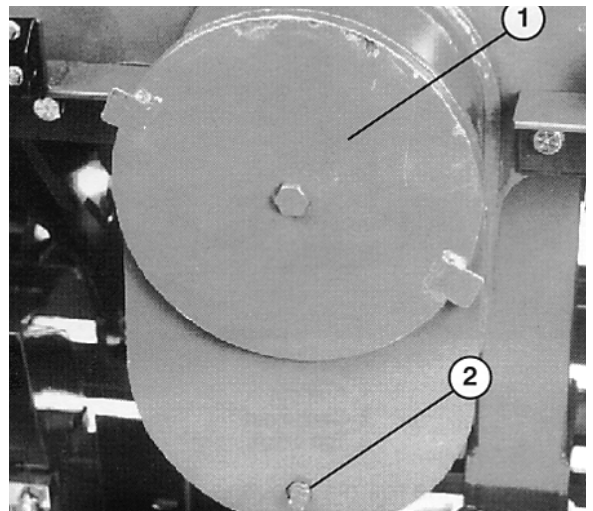

Figure 15
1. With the machine on a level surface, remove the gear case cover (Fig. 15).